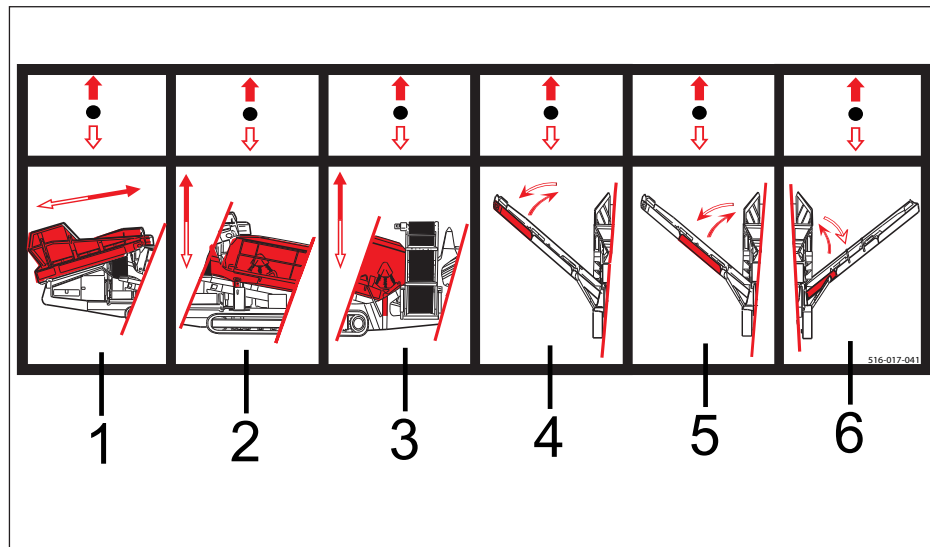
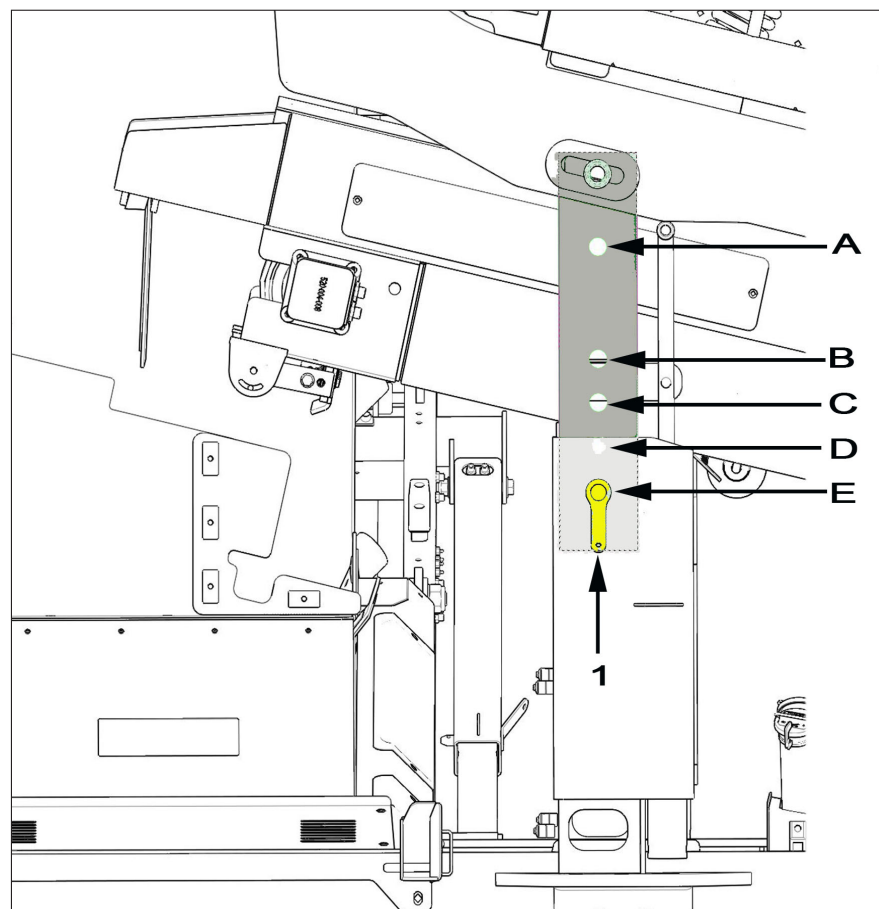

Figure 4.87 - Right Hand Side Control Bank Decal
Figure 4.88 - Screen Box Pin Positions
1. Raise the screen box using lever (2) Figure 4.87 and release the weight on the pin, (Item 1 Figure 4.88).
3. There are 5 pinning holes explained in Figure 4.88 and Table 4.25